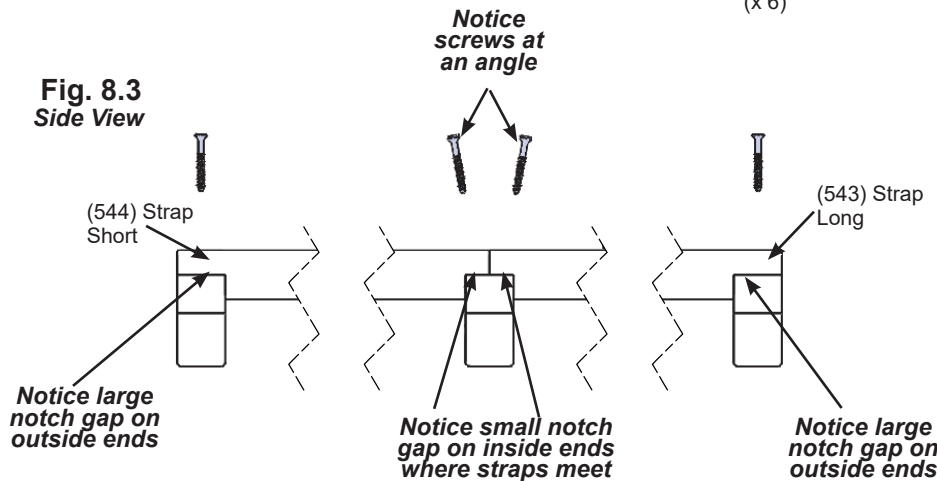

Fig. 8.3
D: Tight to each (543) Strap Long place one (544) Strap Short and tight to the first two (544) Strap Shorts place one (543) Strap Long. Make sure the wider gap on each strap is on the outside. Make sure the assembly is square, pre-drill the first (544) Strap Short with a 1/8" drill bit, as shown below, then attach both (544) Strap Shorts with six #8 x 1-3/4" Wood Screws per board and both (543) Strap Longs with ten #8 x 1-3/4" Wood Screws per board. The screws where the straps meet are inserted at an angle. (fig. 8.3 and 8.5)